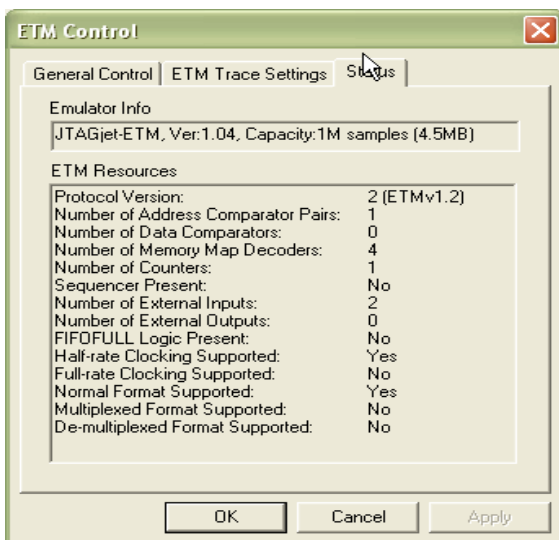

FIGURE 43 ETM Status tab showing the LPC2129 ETM resources
1. Select the **Status** tab in the **ETM Control** window to display information related to the ETM resources embedded into the target ARM device. Please read the contents of the information dialog box and note the description of the ARM device's ETM resources (Figure 43). These resources can vary substantially from one ARM device family to another. Oftentimes, locating such information in the device's data sheet is cumbersome.